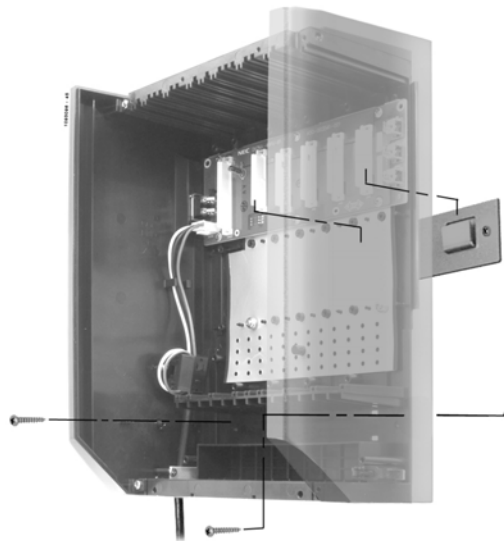

Figure 6: Hanging the DSX-80 4-Slot KSU
- See *Figure 6: Hanging the DSX-80 4-Slot KSU* below when hanging a DSX-80 4-Slot KSU.